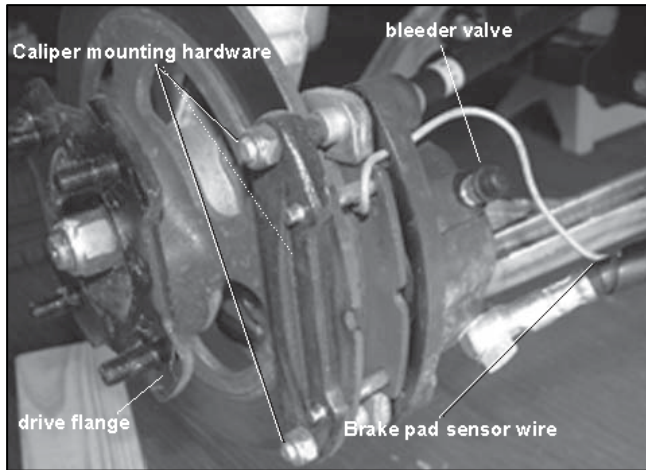

Figure 5-7
4. Disengage the brakes and remove brake caliper mounting hardware (Figure 5-7).